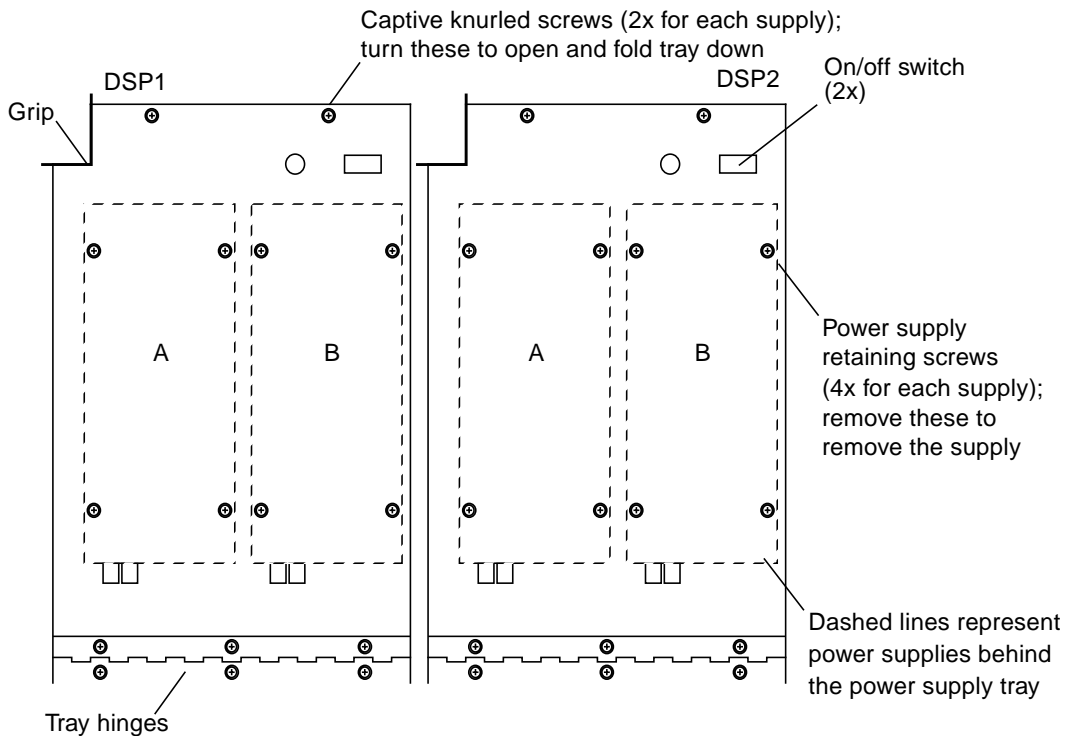
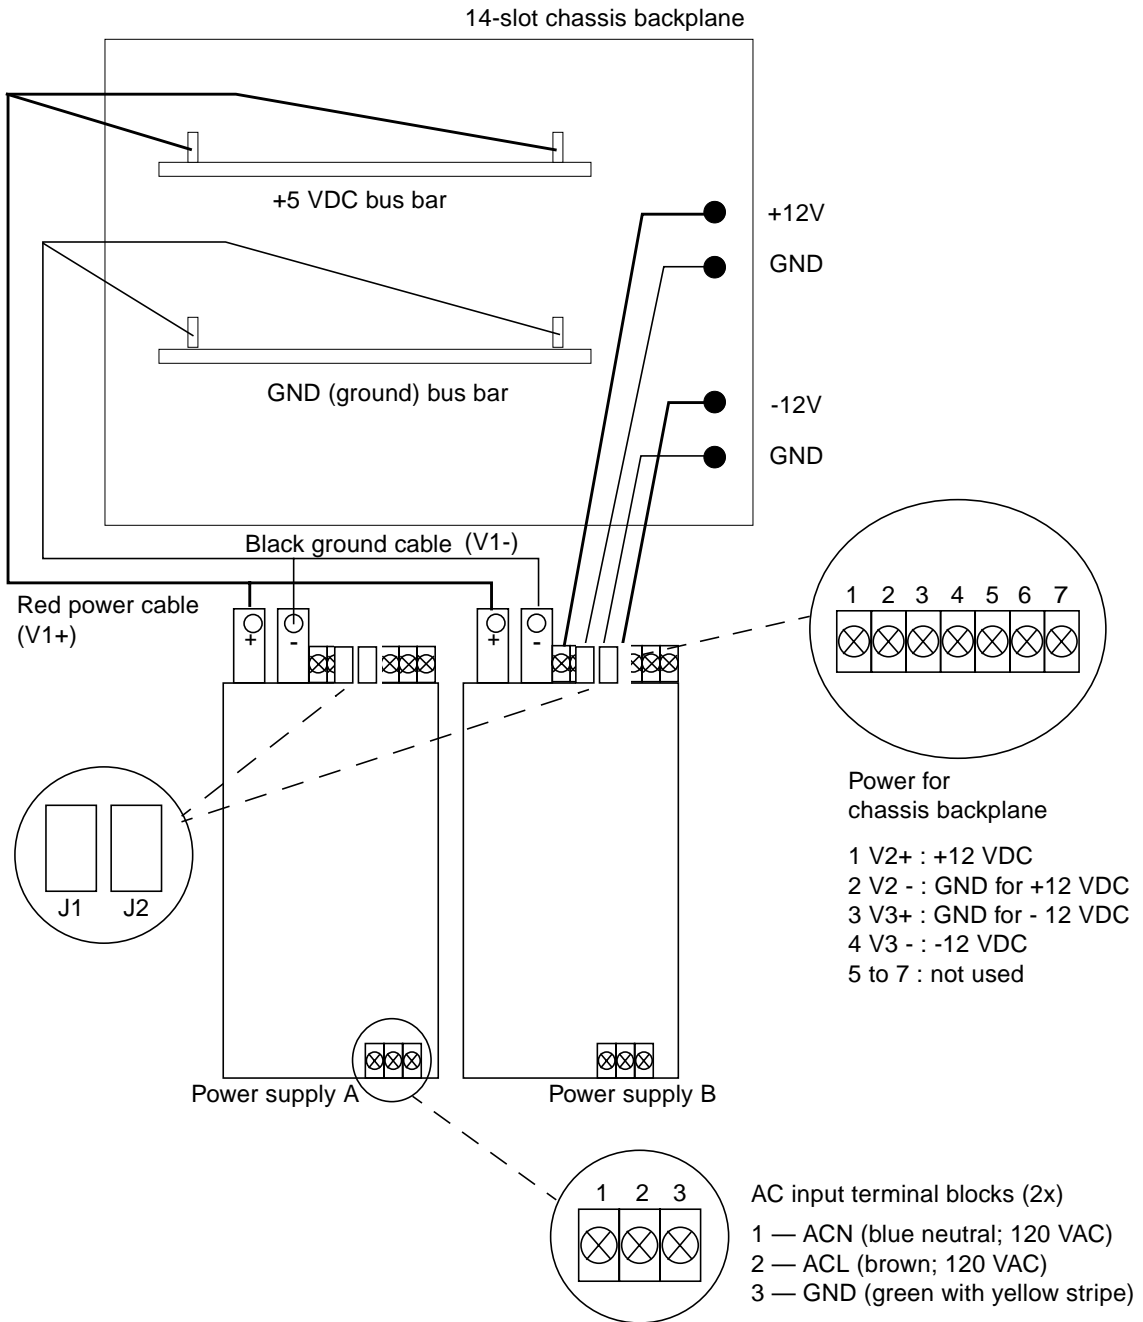

FIGURE 6-15 Subsystem Power Supplies
FIGURE 6-16 Subsystem Power Supply Connection
The dsp1 and dsp2 subsystems have identical sets of power supplies, located in the front of the cabinet, just behind the System Console tray. Each subsystem has two separate supplies, power supply A and power supply B. See FIGURE 6-15 and FIGURE 6-16.
1. **Turn the captive knurled knobs on the subsystem power supply tray to release the tray. Fold down the tray, pulling on the rubber grips.** See FIGURE 6-15.
2. **Remove the connector plugs from J1 and J2 on the power supply.** See FIGURE 6-16. Note that the J1 connector plug has four pins and the J2 connector plug has three pins.
6. Remove the power supply assembly—use the grips and tilt the power supply tray. Remove the four power supply retaining screws, using a Philips screwdriver. See FIGURE 6-15. Remove the power supply assembly.
3. Using a Philips screwdriver, screw in the four power supply retaining screws. See FIGURE 6-15.
4. Using a Philips screwdriver, replace the three terminals and screws in the AC input terminal block at the bottom of the power supply. See FIGURE 6-16.
8. Replace connector plugs from J1 and J2 on the power supply. See FIGURE 6-16. Note that the J1 connector plug has four pins and the J2 connector plug has three pins.
- 3. Unscrew the power supply retaining screws from the left subsystem power supply tray. See FIGURE 6-15.**
1. **Unscrew the power supply retaining screws from the left subsystem power supply tray. See FIGURE 6-15.**